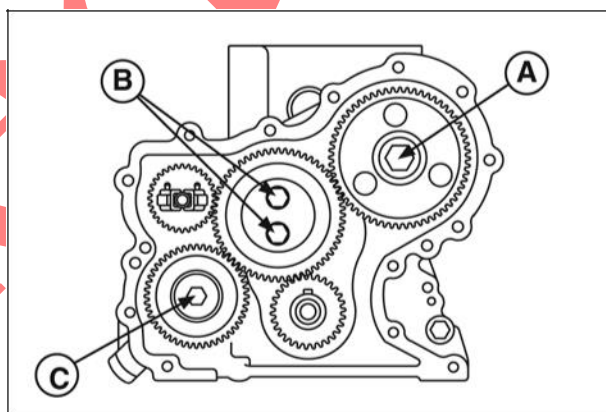

Figure 17
7. With crankshaft key at the 12 o'clock position, assemble idler gear so that timing mark 11 (AA) is aligned with timing mark 1 (A) on crankshaft gear, timing mark 22 (BB) is aligned with timing mark 2 (B) on camshaft gear (Figure 17).